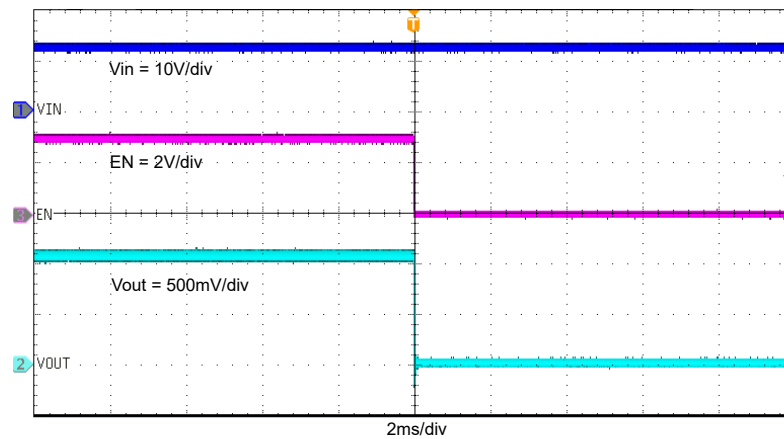

Figure 4-9. TPS564252EVM Shutdown Relative to EN
Figure 4-9 shows the TPS562242BEVM shut-up waveform relative to enable (EN). The load is 2A.